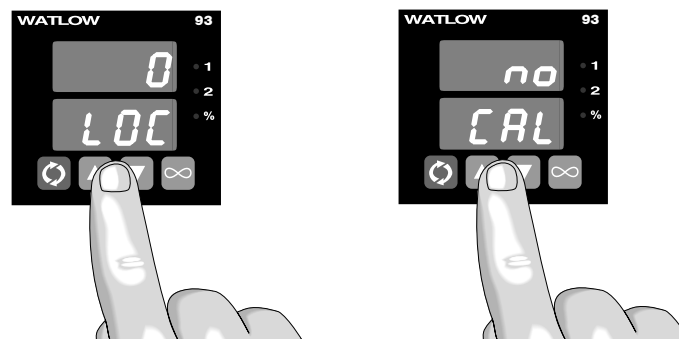

Figure A.3 - Entering the Calibration Menu.
3. Apply power to the controller and allow it to warm up for 15 minutes. **After warm-up** put the controller in the Calibration Menu. See Figure A.3. Select .
3. Apply power to the controller and allow it to warm up for 15 minutes. **After warm-up** put the controller in the  menu. See Figure A.3. Select . Press the  $\rightarrow$  Advance key until the 440 prompt is displayed.
3. Apply power to the controller and allow it to warm up for 15 minutes. **After warm-up** put the controller in the  menu. See Figure A.3. Select . Press the  Advance key until 0.00 is displayed.
3. Apply power to the controller and allow it to warm up for 15 minutes. **After warm-up** put the controller in the  menu. See Figure A.3. Select YES. Press the  Advance key until 4 is displayed.
3. Apply power to the controller and allow it to warm up for 15 minutes. **After warm-up** put the controller in the `[CAL]` menu. See Figure A.3. Select **YES**. Press the **⏩** Advance key until the 4A0 prompt is displayed.